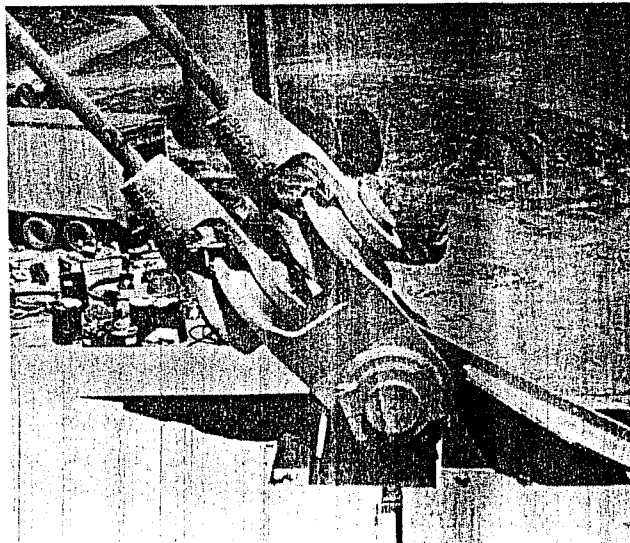

Figure 3.3-52
7. Secure a crane (100 foot boom) to the dragline boom. Then with the crane and the hoist machinery, simultaneously lift the boom and the mast until there is enough slack in the lower structural strands to unpin them at the anchor brackets at the rear of the machine house. (Figure 3.3-52)